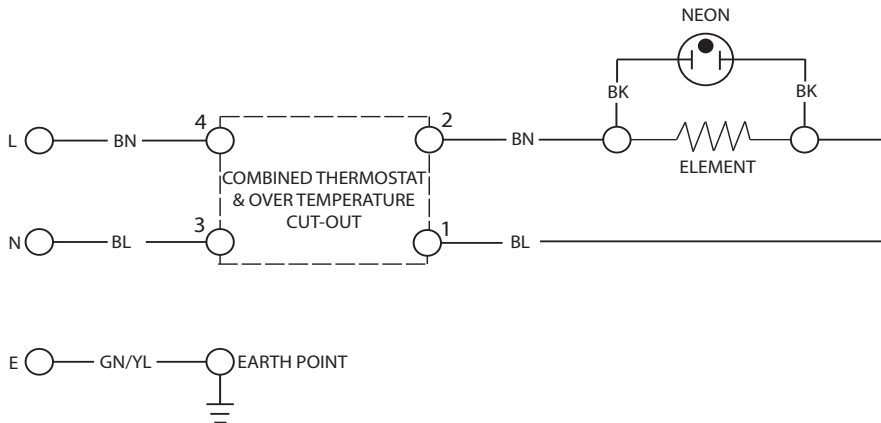

FIGURE 05: WIRING DIAGRAM
3.5.1 The unit is supplied fitted with a 0.75m 3 core 1mm² flexible cable. The electricity supply should be fused 13 Amp and be via a double pole isolating switch with a contact separation of at least 3mm in both poles. Refer to the schematic wiring diagram Figure 05 below.
2. Thermal cut-out tripped	Check cut-out, if operated, reset and check thermostat operation. If necessary replace thermostat/thermal cut-out (see Wiring Diagram Fig. 05, page 8)